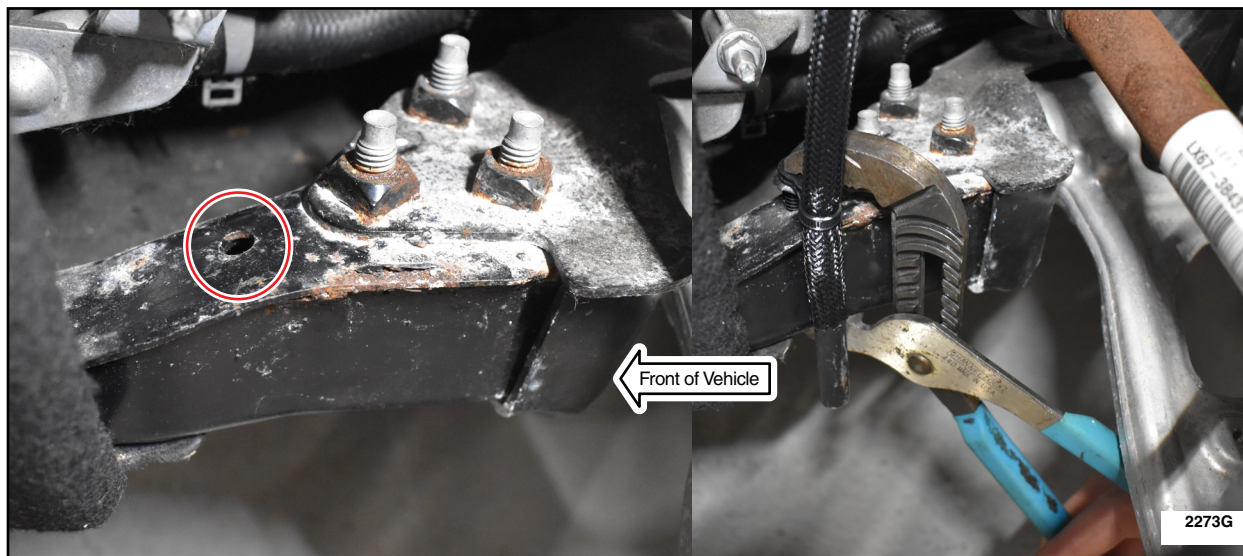

FIGURE 7
10. Attach hose to subframe. Position fir tree fastener and push in as far as possible. If needed you can use groove joint pliers to secure fir tree fastener fully into the hole in the subframe. See Figure 7.